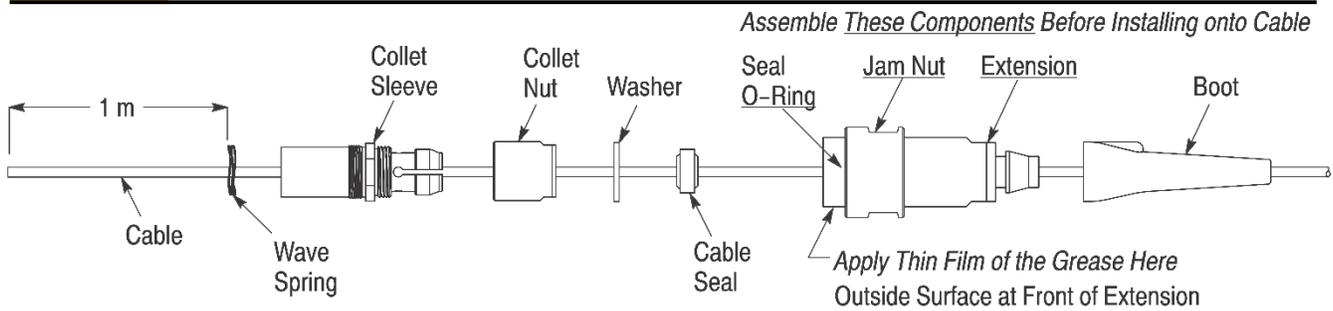

Figure 2
1. Thread the jam nut onto the front of the extension until it stops. DO NOT force the jam nut past this point. Refer to Figure 2.
2. Slide the seal o-ring onto the front of the extension and into the groove in the jam nut. Apply a *thin film* of grease around the outside edge at the front of the extension. Refer to Figure 2.
3. Slide the components shown in Figure 2 onto the cable allowing 1 m at the end of the cable for stripping the cable jacket. Make sure to orient each component as shown.